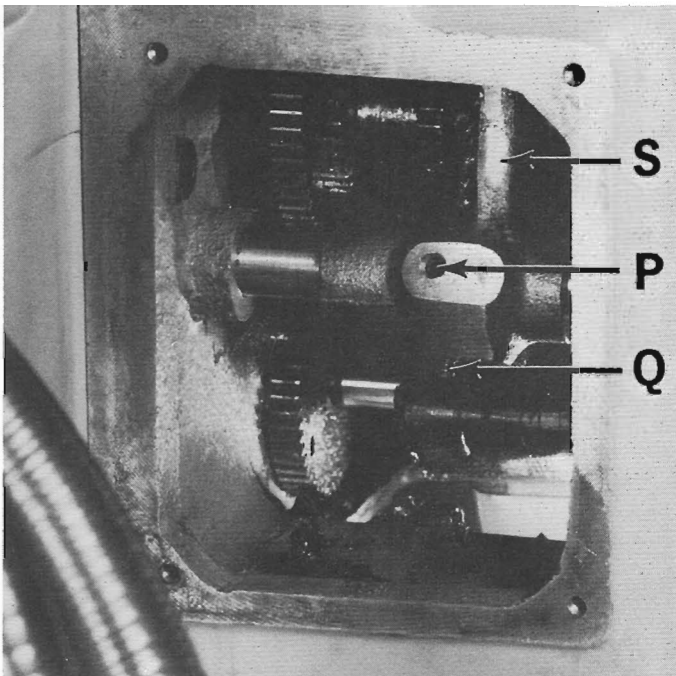

Figure 18 — Gearbox Shifter Fork
- (H). Remove lock screws "P" and "Q", Figure 18.
- 14. Replace shaft "R", Figure 19, and screws "P" and "Q", Figure 18 (locate shifter yoke on shaft by lining up screw holes).
5. Remove lock screws "P" and "Q", Figure 18.
6. Unscrew shaft "R", Figure 19, with hex pin wrench. Remove shaft "R" and shifter fork "S", Figure 18.